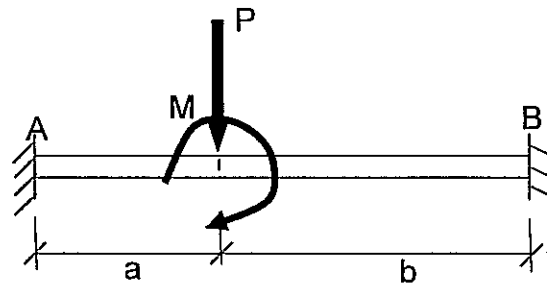

Figure Q1.
1. The beam given in Figure Q1 has constant EI all over the length.